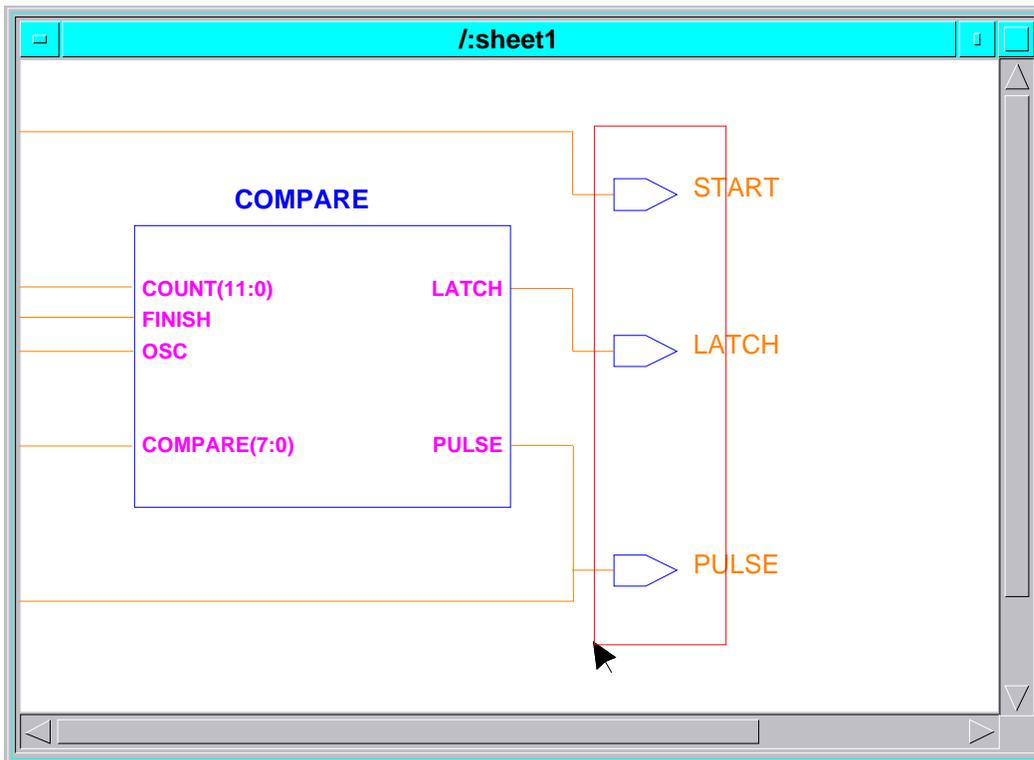

Figure 3-4. Selecting Signals Using a Dynamic Rectangle
- h. Drag the mouse to create a dynamic rectangle similar to the one shown in Figure 3-4.